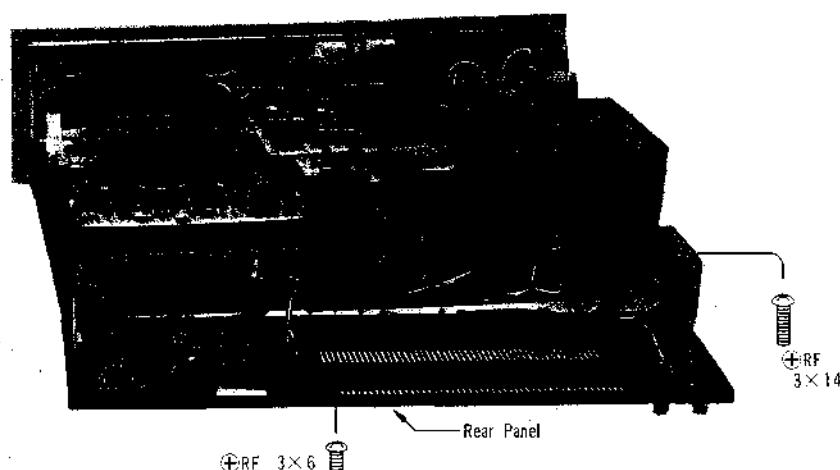

Fig. 2-6-1 Removal of Rear Panel
- (c) Pull the rear panel forward and down. See Fig. 2-6-1.
- (d) Loosen off two machine screws (+RF3φ×6) that hold the CS₁ mounting base. See Fig. 2-6-1.
- (1) Loosen off two screws ($+K3\phi \times 6$) at each side of the chassis to tilt the rear panel. See Fig. 2-6-1.
- (2) Loosen off two screws ($+RF3\phi \times 4$) securing the transistor to the heat sink.
- (3) Install the replacement.
- (4) When replacing a power transistor, apply a coat of heat-transferring silicone grease to both sides of the mica insulation. The grease fills the tiny dents in the mating surfaces, thereby improving heat transfer to the heat sink.
- (5) Any excess grease, that is squeezed out when the mounting bolts are tightened, can be wiped off with a clean cloth, to prevent it from attracting conductive dust particles that would eventually short out the insulation.